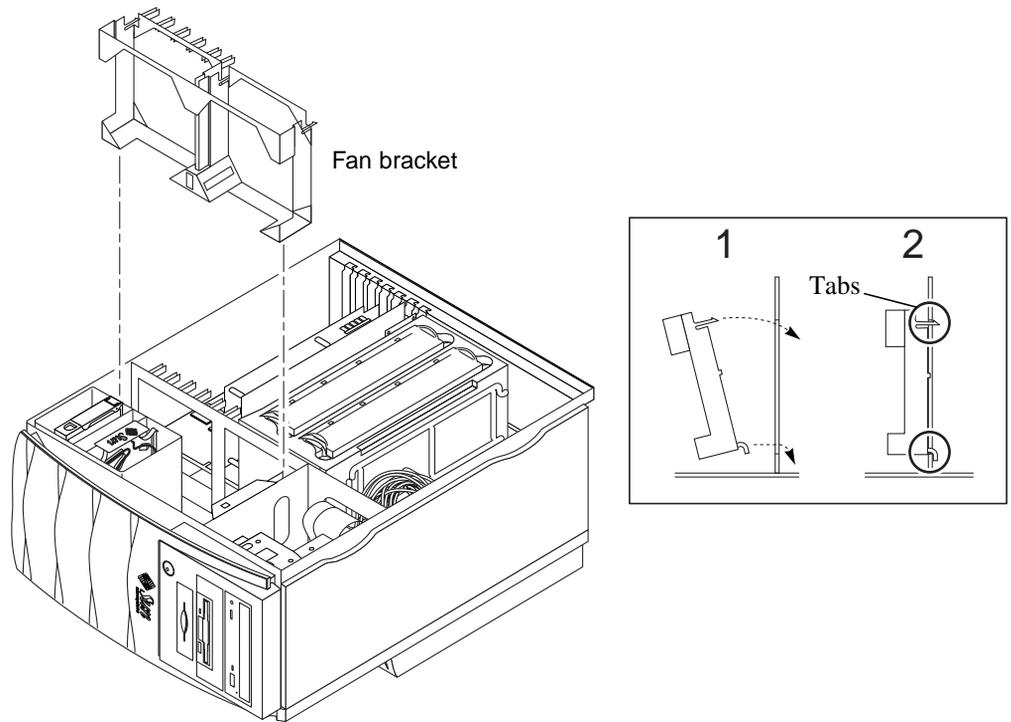

FIGURE 6-14 Removing and Replacing the Fan Bracket
2. **Disconnect the fan assemblies from the motherboard (FIGURE 6-14).**
See FIGURE 6-14.
1. **Replace the fan assemblies** (FIGURE 6-14).